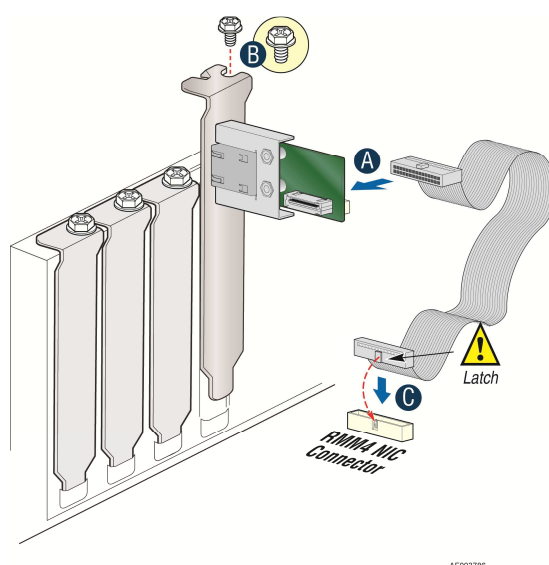

Figure 21: Adding the Intel® Dedicated Server Management NIC Module on a Third-party Chassis
4. Attach the cable to the cable connector on the Intel® Dedicated Server Management NIC module as shown in Figure 21 (A).
6. Attach the cable to the RMM4 NIC connector (J5C1) on the server board as shown in Figure 21 (C).